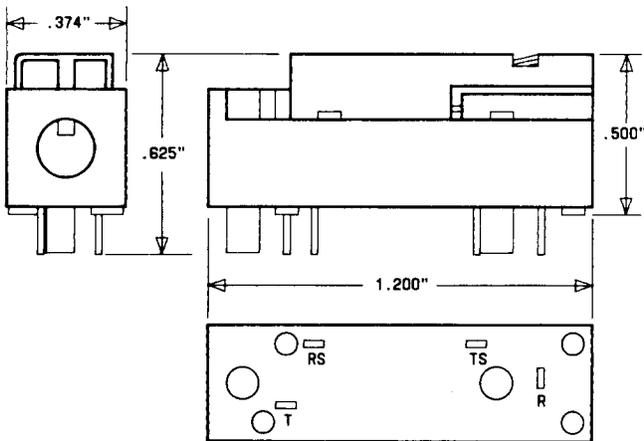

Fig. 11—KS-22052, L2, Jack
- (b) **KS-22052, L2:** The KS-22052, L2, jack (Fig. 11) contains tip, ring, and sleeve springs with break-contacts on the tip and ring springs plus a monitor function for checking line status without interrupting an active circuit.